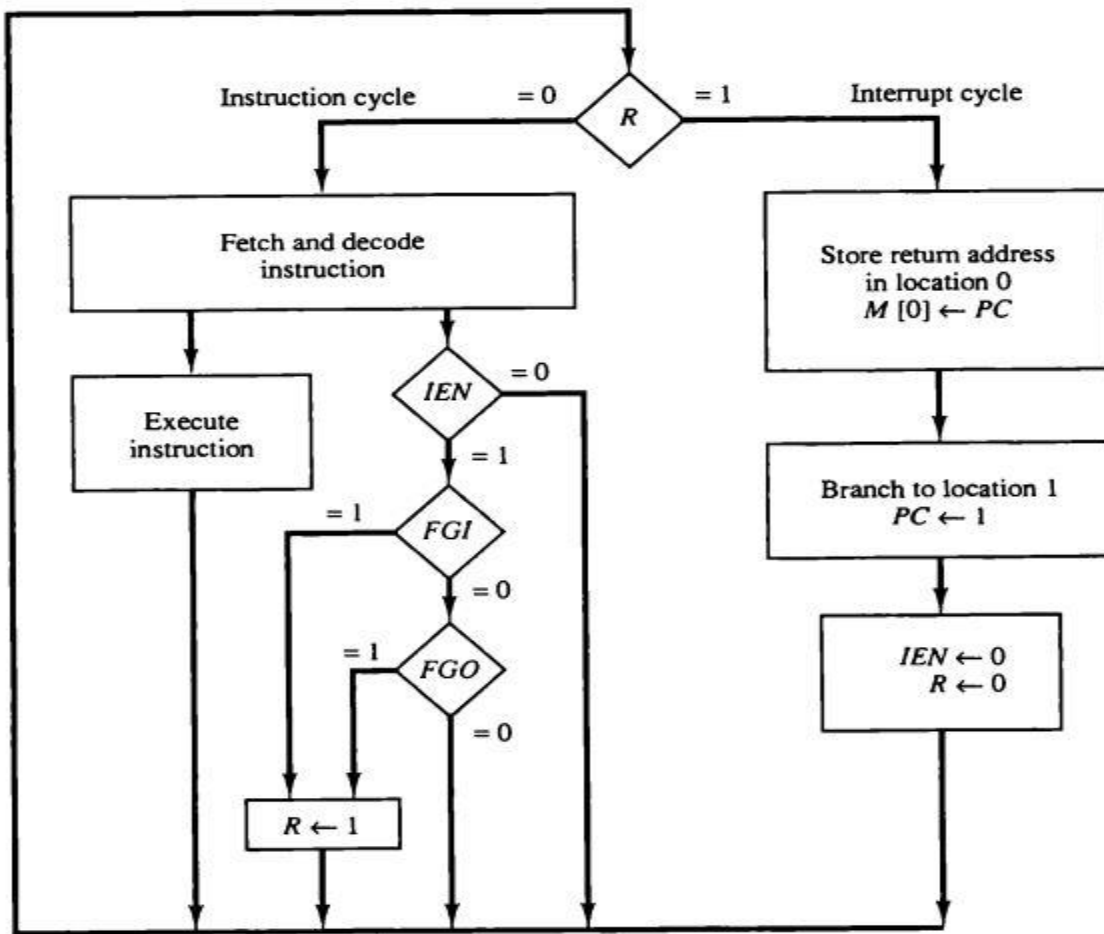

Figure 1-MM: Flowchart for interrupt cycle
- **An example** that shows what happens during the interrupt cycle is shown in Fig 1-NN.